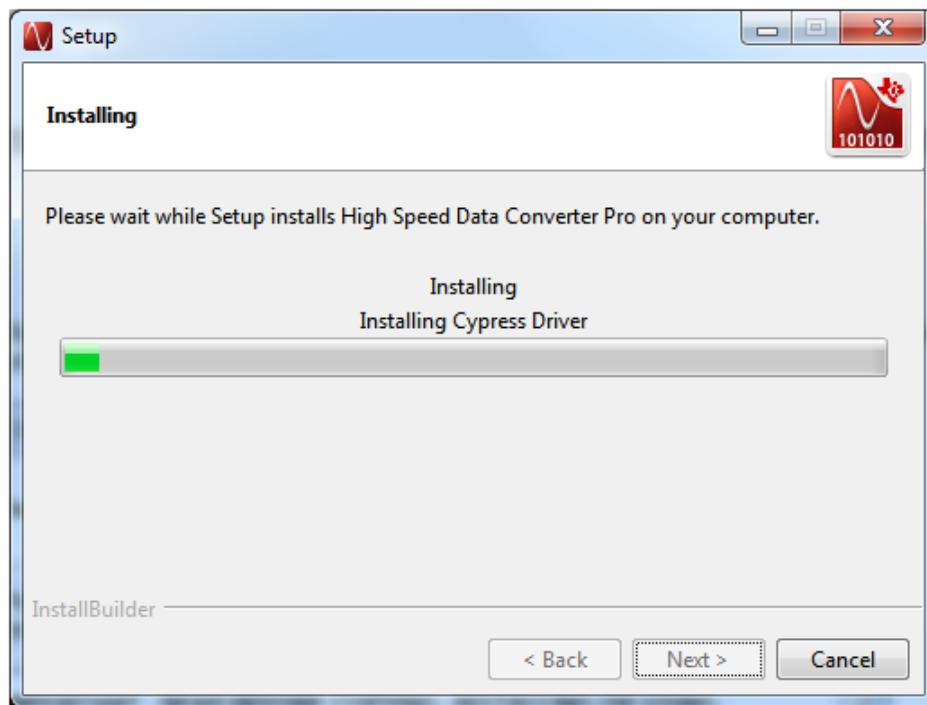

Figure 30. HSDCPro Install (Cypress Driver Install)
7. The Cypress Driver begins installing as shown in Figure 30.